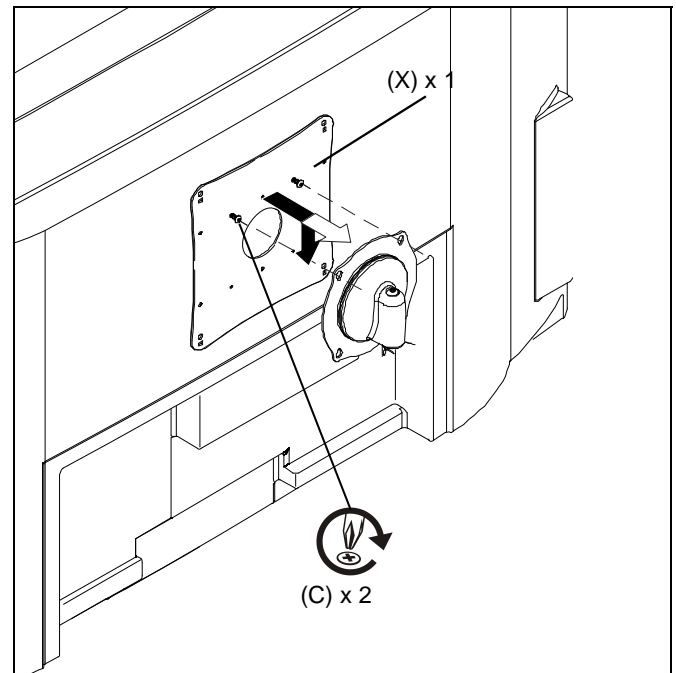

Figure 10
5. Start two Phillips pan head screws (C) into top mounting holes (100 x 100) in interface bracket (X). (See Figure 10)
6. Align two screws in interface bracket (X) with upper mounting holes in mounting plate and lower display until screws are seated in lower area of teardrop mounting holes. (See Figure 10)